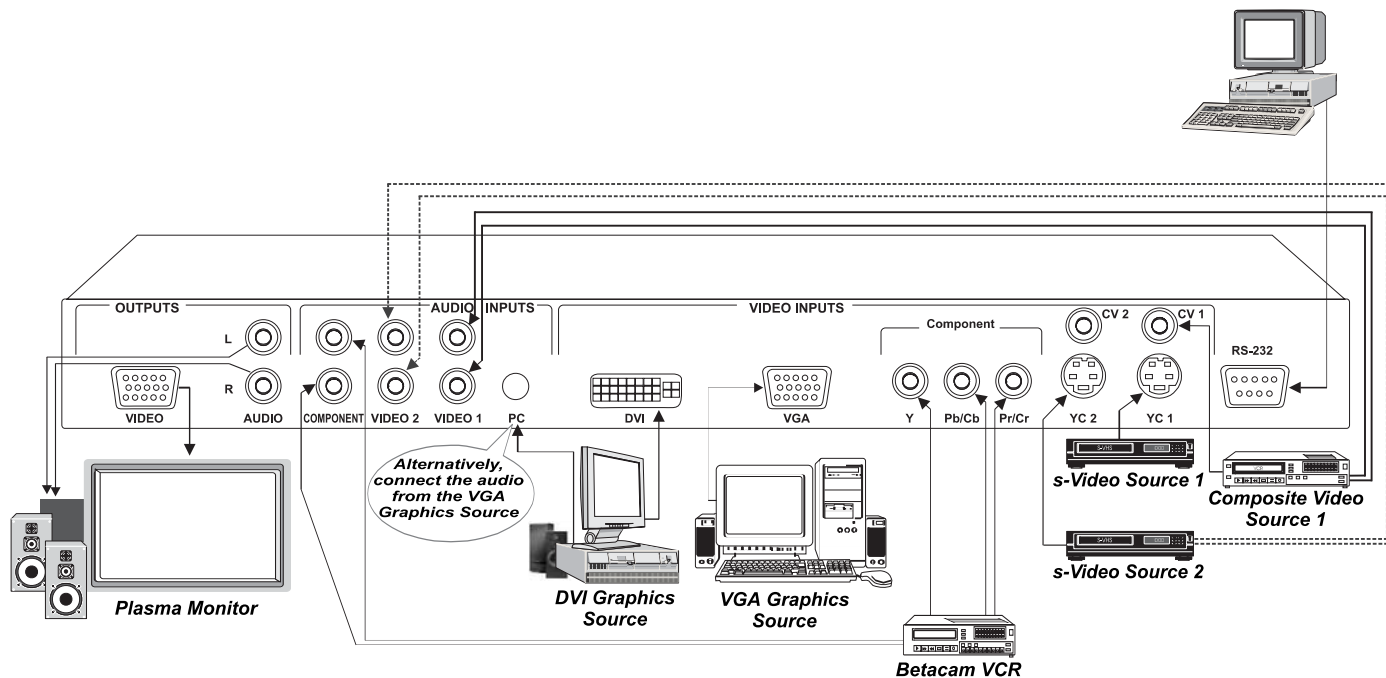

Figure 3: Connecting the VP-719DS Rear Panel
To connect the **VP-719DS**, connect the following² to the rear panel, as the example in Figure 3 illustrates:
- A component video source⁴, for example, a Betacam VCR (as illustrated in Figure 3), to the 3 RCA connectors, Y, P_b/C_b, and P_r/C_r⁵
2. Connect the stereo audio sources, as illustrated in Figure 3. In particular:
- The audio of the DVI Graphics Source to the AUDIO INPUT PC 3.5mm socket⁸. Alternatively, connect the audio from the VGA Graphics Source (not illustrated in Figure 3)
3 Connection to CV 2 is not shown in the example in Figure 3
5 Alternatively, you can connect an RGB signal (not shown in Figure 3), as follows: RED to the “Y” connector, GREEN to the “P_b/C_b” connector, and BLUE to the “P_r/C_r” connector
3. Connect the VIDEO OUTPUT HD15F connector to the video acceptor, for example, a projector or a Plasma monitor (as shown in Figure 3), and connect the AUDIO OUTPUT pair of RCA connectors to the audio acceptor, for example, a power amplifier.
4. The power cord¹ (the power connector is not illustrated in Figure 3).